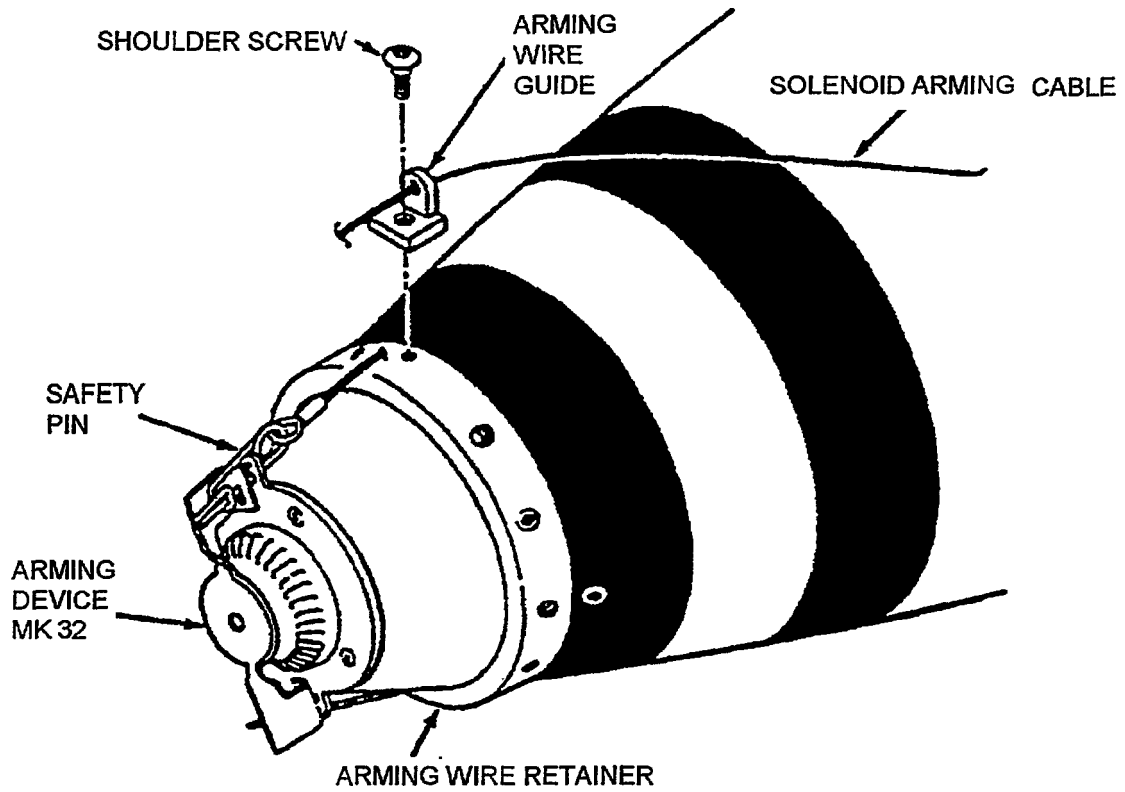

Figure 4-15G. Tail Section Mk 16 Solenoid Arming Cable to Arming Device Installation
- e. Install the arming wire guide as shown in Figure 4-15G, using the arming wire retainer mounting hole that best aligns with the arming device vane safety pin holes.